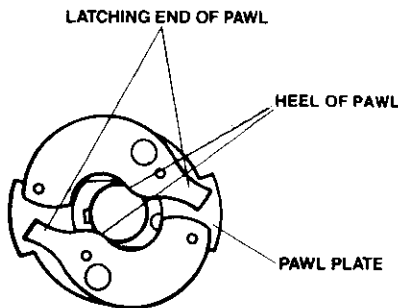

Figure 3.3.4A
6. Measure the clearance between the boss on the underside of each (2) impulse pawl and the pawl plate using a feeler gage. Position the latching end of the impulse pawl over the pawl plate as shown in Figure 3.3.4A.